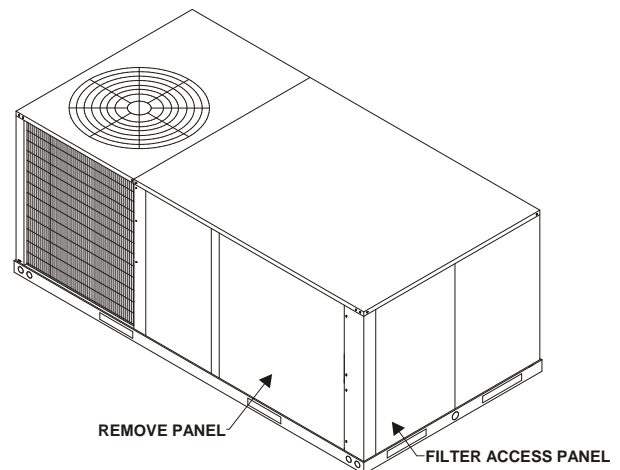

Figure 1
2. Remove the rooftop unit horizontal return air access panels. Also remove any hoods and/or power exhaust equipment. Discard hoods, power exhaust equipment, and horizontal return air panels. **See Figure 1.**